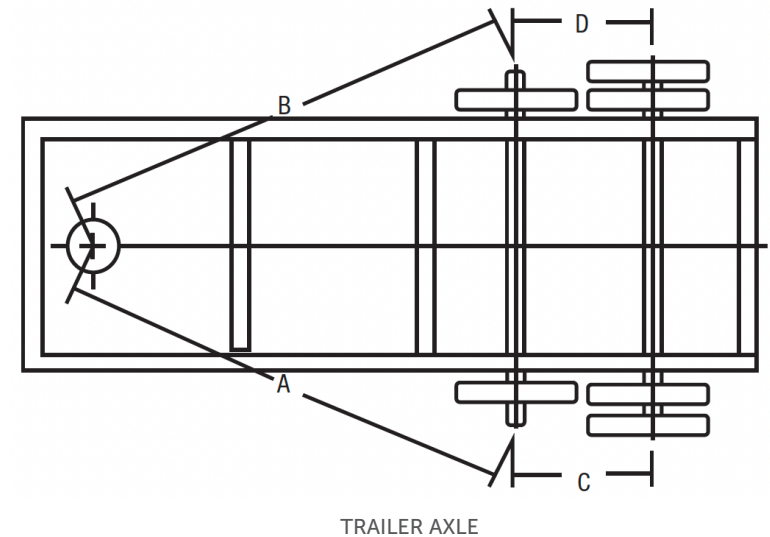

Figure 11
5. Measuring from the king bolt of the trailer move the beam on the opposite side to which the welding bead was applied forward or backward, until the distance from the king bolt to both terminals is equidistant (a maximum tolerance of 1/8" is considered acceptable). (See Figure 11)
7. For additional axles, adjust until both terminals of the additional axle are equidistant from the front axle (1/16" maximum tolerance is commonly considered acceptable in the distance between both axles, (See Figure 11) continue if within the specifications with steps 4 and 6.